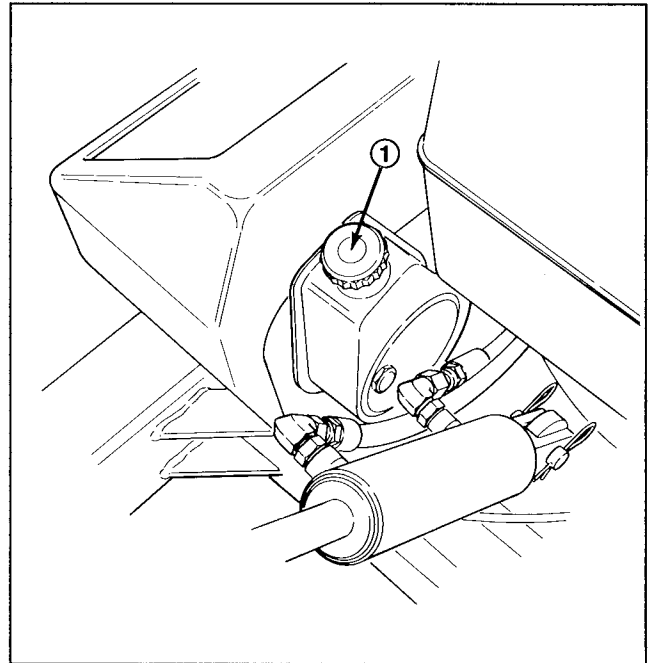

Figure 13
2. Remove dipstick cap (Fig. 13) from filler neck and wipe it with a clean rag. Insert dipstick cap into filler neck; then remove it and check level of fluid. If level is not within 1/2 inch from the full mark on dipstick, add SAE 10W-30 engine oil to raise level to full mark. Do not overfill.